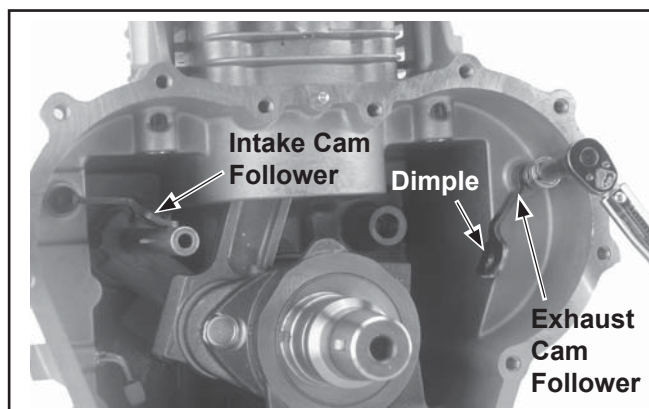

Figure 10-25. Installing Cam Levers.
1. Install the two cam levers as shown in Figure 10-25. The dimple for seating the push rod must face up. Secure each cam lever using an M6 hex flange screw. Torque the screws to **7.5 N·m (65 in. lb.)**. Lubricate the dimple and bottom side of the cam lever with light grease or oil.
1. If the drive pins were removed from the exhaust cam shaft, follow the same procedure used earlier for the intake cam shaft and reinstall them. See Figure 10-25.